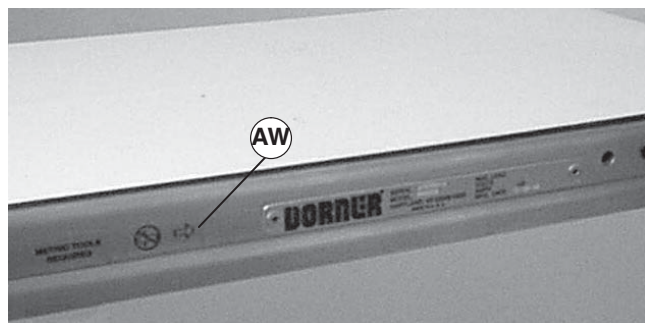
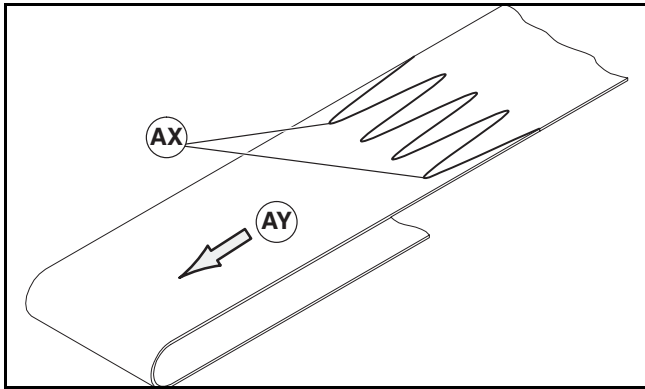

Figure 27
Figure 28
On a flat belt conveyor, the wiper is installed on discharge end. Belt travel direction is identified by an arrow decal on the side of the conveyor (Figure 27, item AW). With a reversing gearmotor, a second bottom wiper must be installed on opposite end.
1. Orient the conveyor belt so that the splice leading fingers (Figure 28, item AX) point in the direction of belt travel (AY) as identified by the label (Figure 27, item AW).
1. Orient conveyor belt so that the splice leading fingers (Figure 28, item AX) point in the direction of belt travel (AY) as identified by the label (Figure 27, item AW).